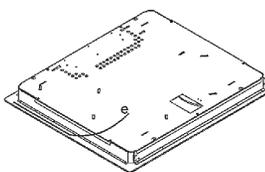

Fig. 10
1. Turnover the hob, take off the seal from the guard. Correctly place the sealing washer «e»(fig 10) under the hob. Be sure to place the sealing washer so that the external side of the sealing washer fits together with the external perimetrical edge of the hob. The ends of the sealing washer must fit together without overlapping.
2. Stick the sealing washer to the hob uniformly. Pressing it by fingers. (Figure 10)